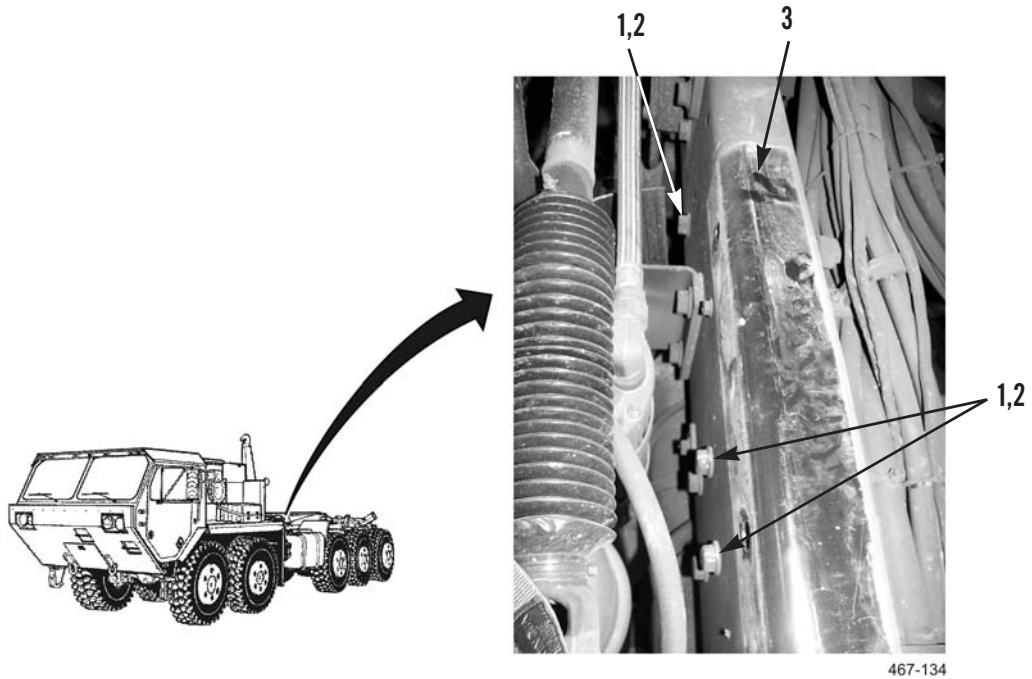

Figure 21. PLS Left-Side Bolt Removal.
11. On left side of vehicle, remove three bolts (Figure 21, Item 1) and nuts (Figure 21, Item 2) from frame (Figure 21, Item 3).